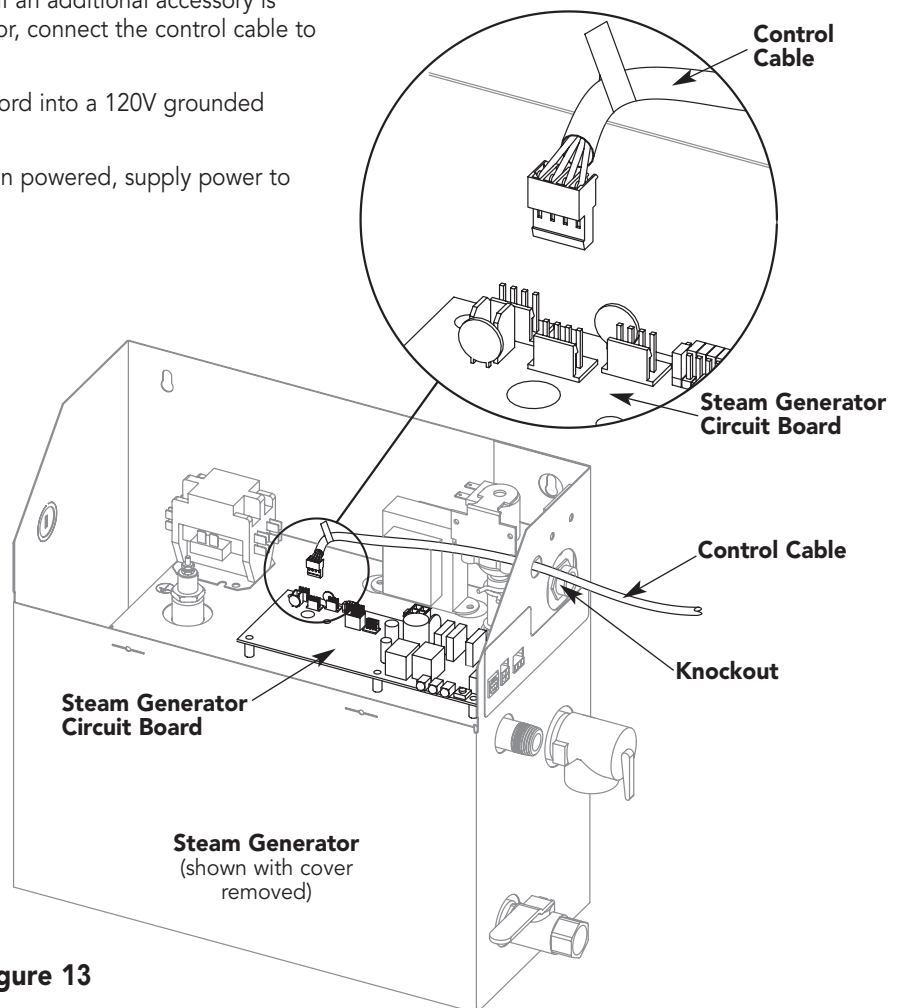

Figure 13
3. Connect the control cable directly to the steam generator's circuit board (**Figure 13**), **OR** if an additional accessory is installed in the steam generator, connect the control cable to the supplied daughterboard.